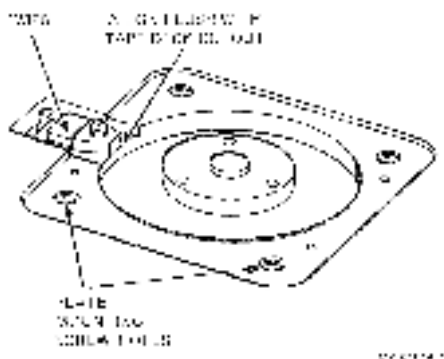

Figure 4-4 File Processor Sensor
3. Remove four mounting screws and file protect sensor cover plate from tape deck (Figure 4-4).
4. Remove the Phillips mounting screw and washer securing the file protect sensor to the tape deck (Figure 4-4).
1. Place sensor on tape deck as shown on Figure 4-4, and secure it with mounting screw and washer.